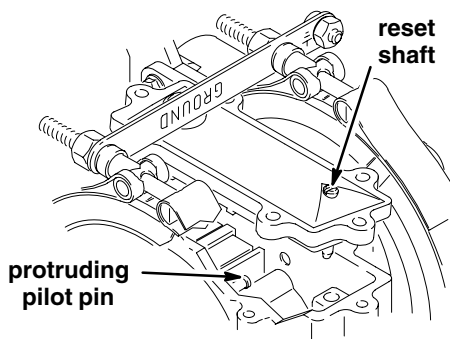
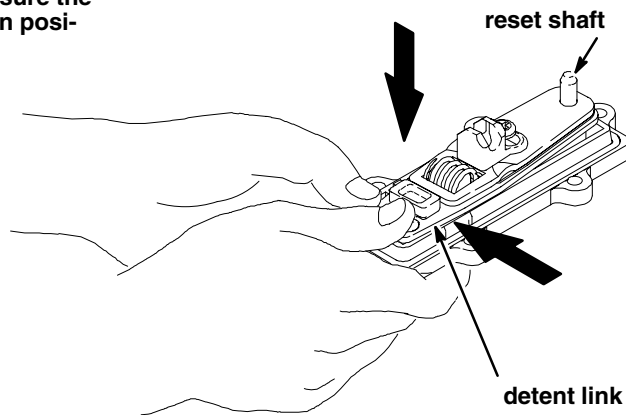

Fig. 4
Fig. 5
- a. Check if either of the two pilot pins are protruding into the air valve cavity. See Fig. 4. If they are protruding, push them back in as far as possible. If one of the pins is still protruding, make sure the air valve is shifted **away from** that pilot pin's side of the air valve cavity. To shift the air valve, push down on the detent link (see Fig. 5), and slide it to the other side.
- b. Align the new air valve assembly so the reset shaft (see Fig. 5) is at the top, and the valve is angled away from the protruding pilot pin, then slip the air valve assembly into position over the air valve cavity. **Do not force the air valve down onto the pilot pin if it is protruding. If the pilot pin is interfering with the air valve, make sure the air valve is shifted away from the pilot pin, then position the air valve assembly.**